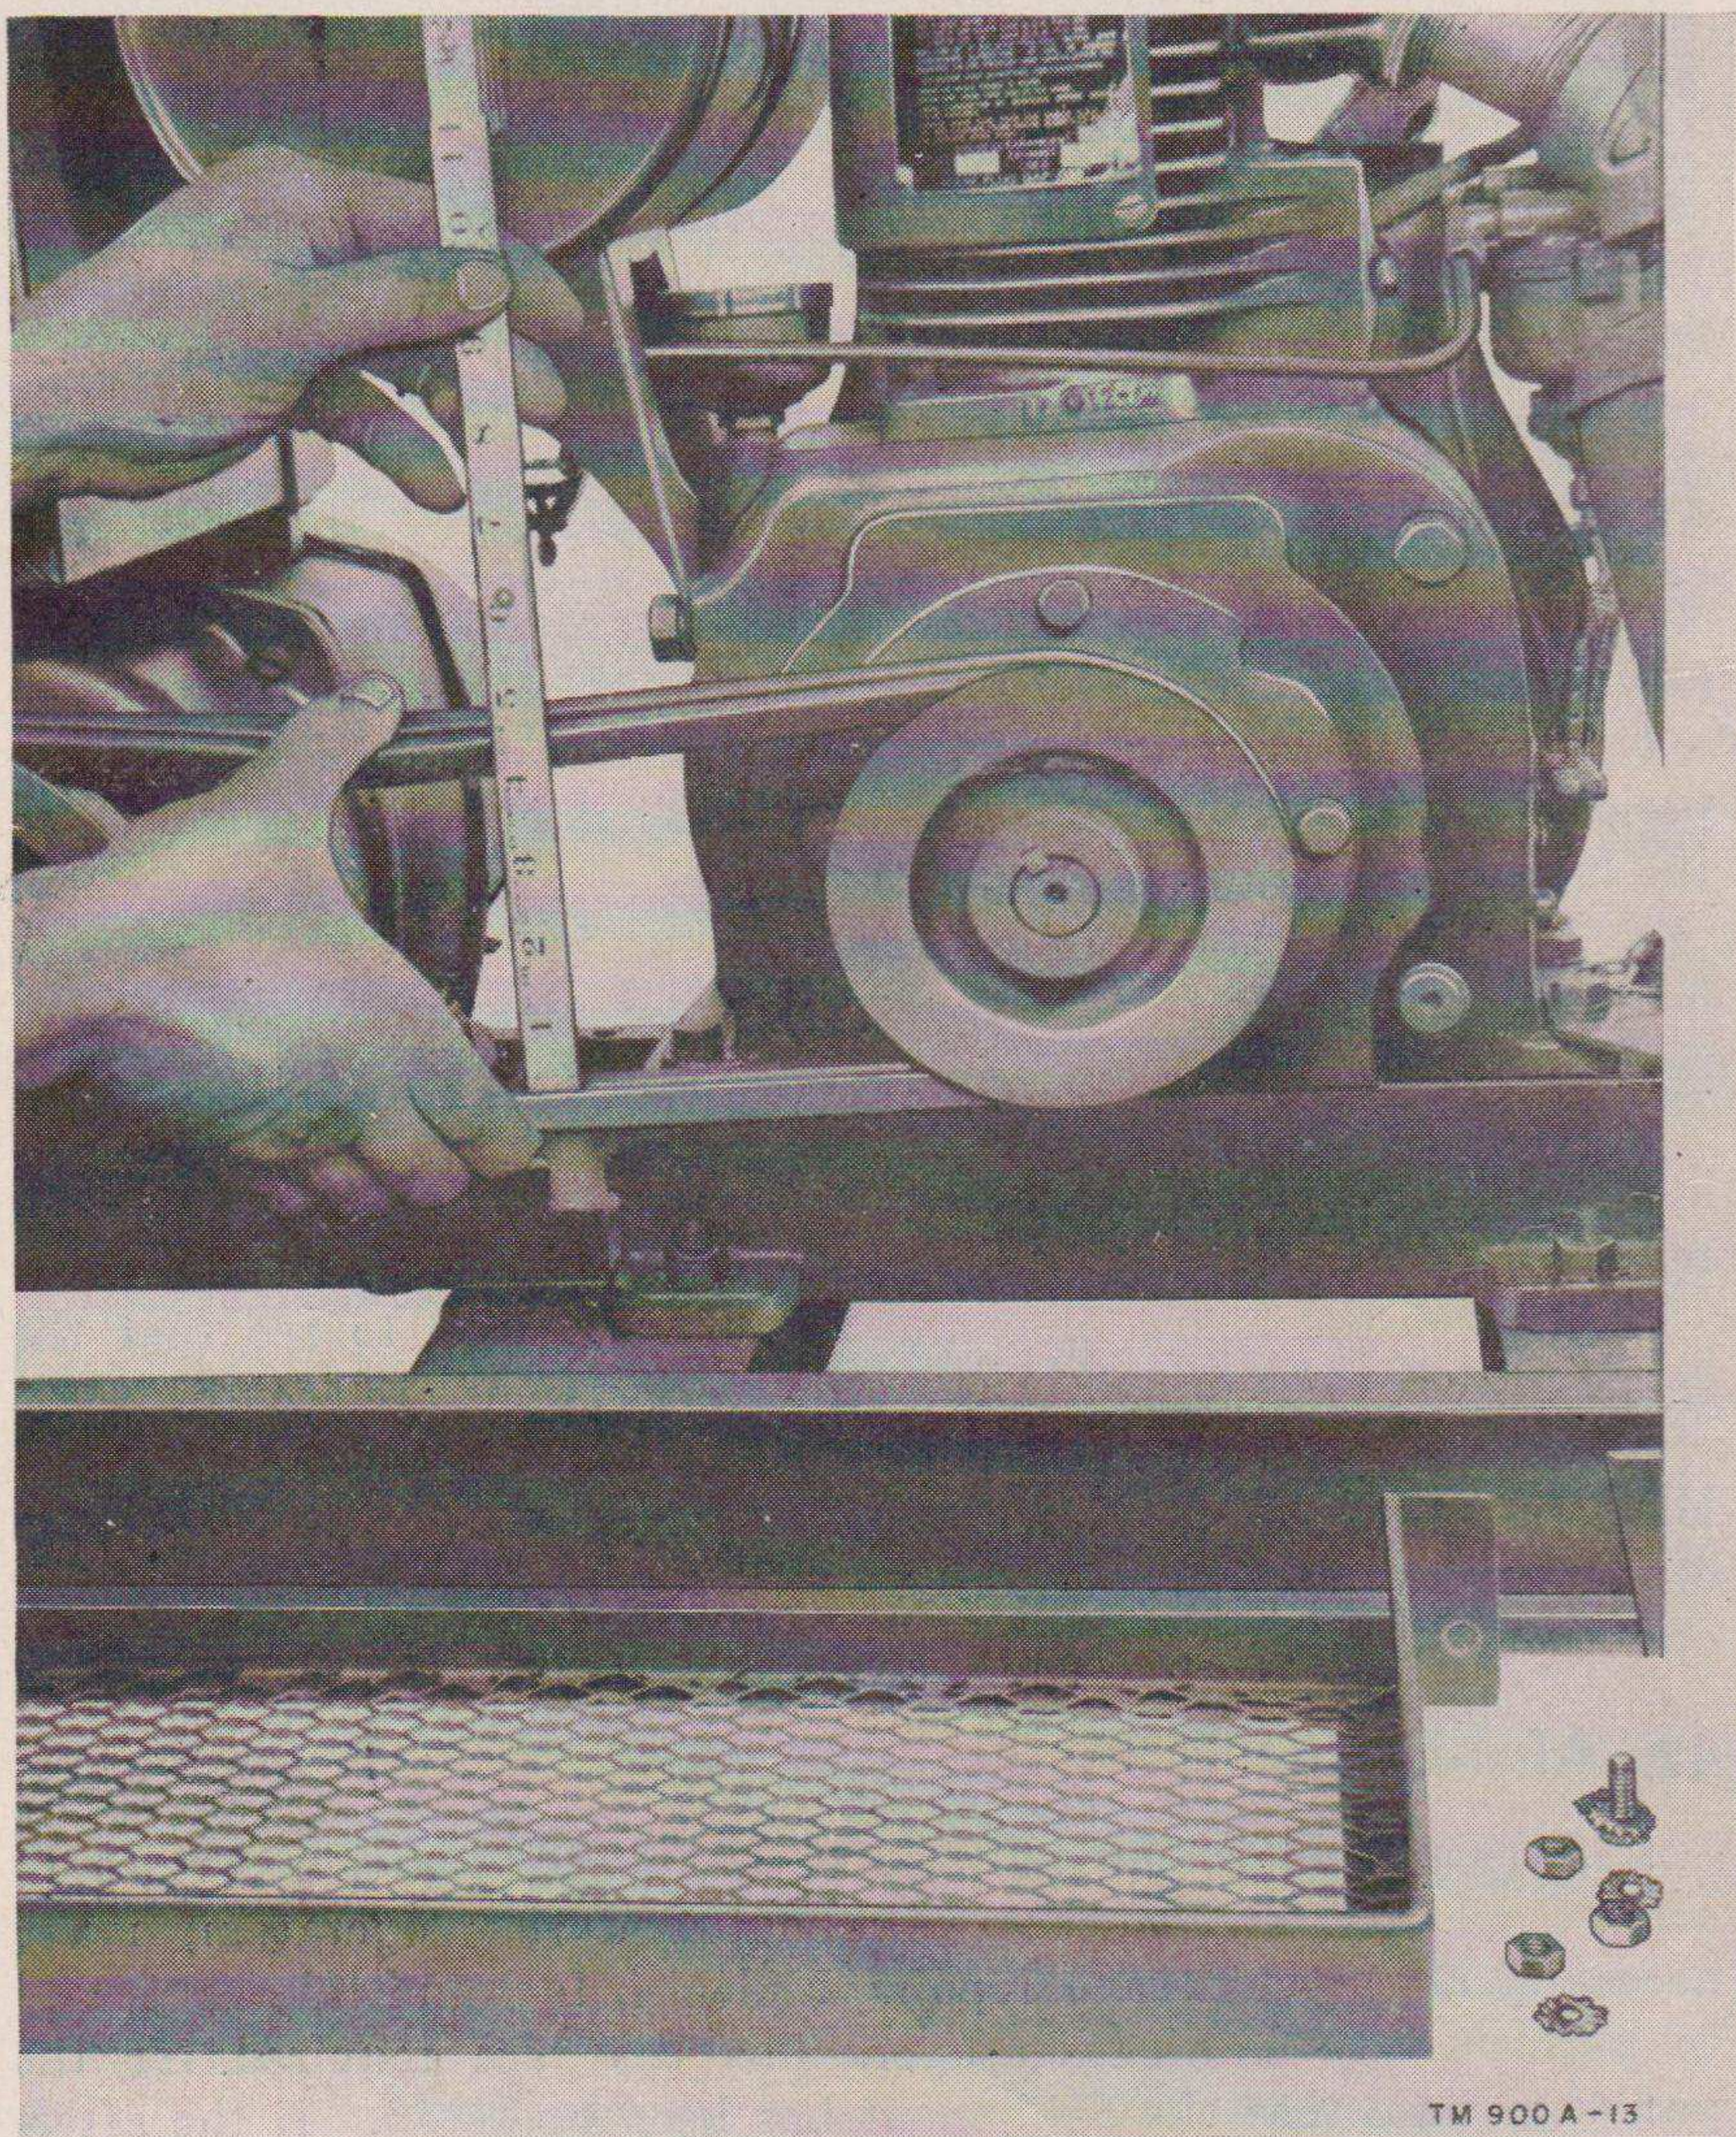

Figure 13. Checking generator drive belt adjustment.
b. Fuel and Lubricant. Fill the fuel tank. Note whether an unusual amount of fuel has been used during operation. If the equipment appears to be using an excessive amount of fuel, report this condition. Check the level of the engine oil in the engine crankcase and replenish it. If the unit has been operated a sufficient number of hours (64 operating hours) since the crankcase was last drained, drain the crankcase and refill it with fresh engine oil (OE) of the correct seasonal grade.
c. Accessories and Belts. Remove the belt guard and inspect the condition and adjustment of the generator drive belts (fig. 13).